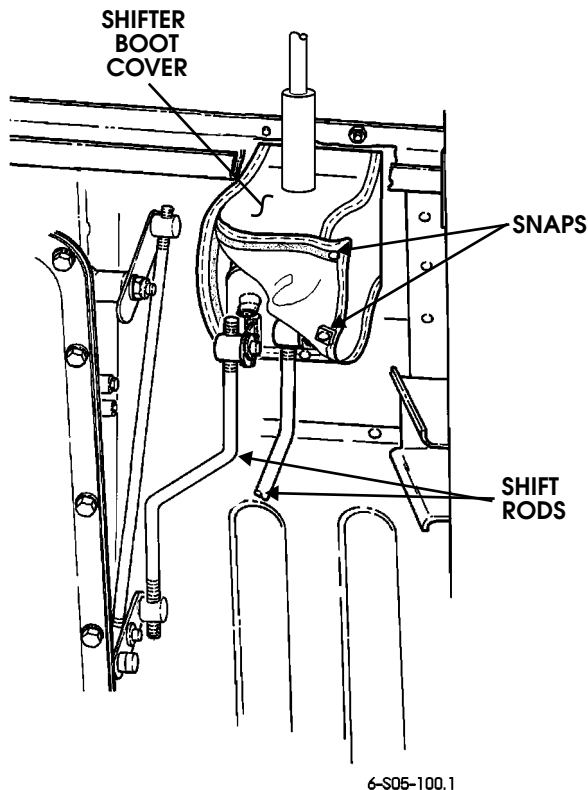

Figure 5-54: Shift Rod Removal
2. Unfasten shifter boot cover snaps and pull apart velcro strips to open cover (Figure 5-54).